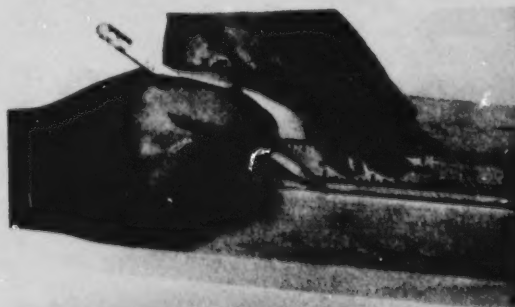

Figure 3-7 Using a rule as a straight-edge to connect two marks
3. Using your bench rule as a straight edge, connect the two marks with a pencil line (Figure 3-7).
3. Usando una regla de banco como una orilla recta, conecte las dos marcas con una línea de lápiz (Figure 3-7).